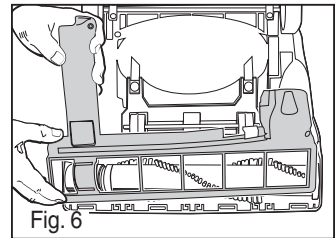

Fig. 6
- 8) Insert 4 tabs on base plate into slots on base (Fig. 6). Rotate base plate down onto vacuum and replace 3 screws.